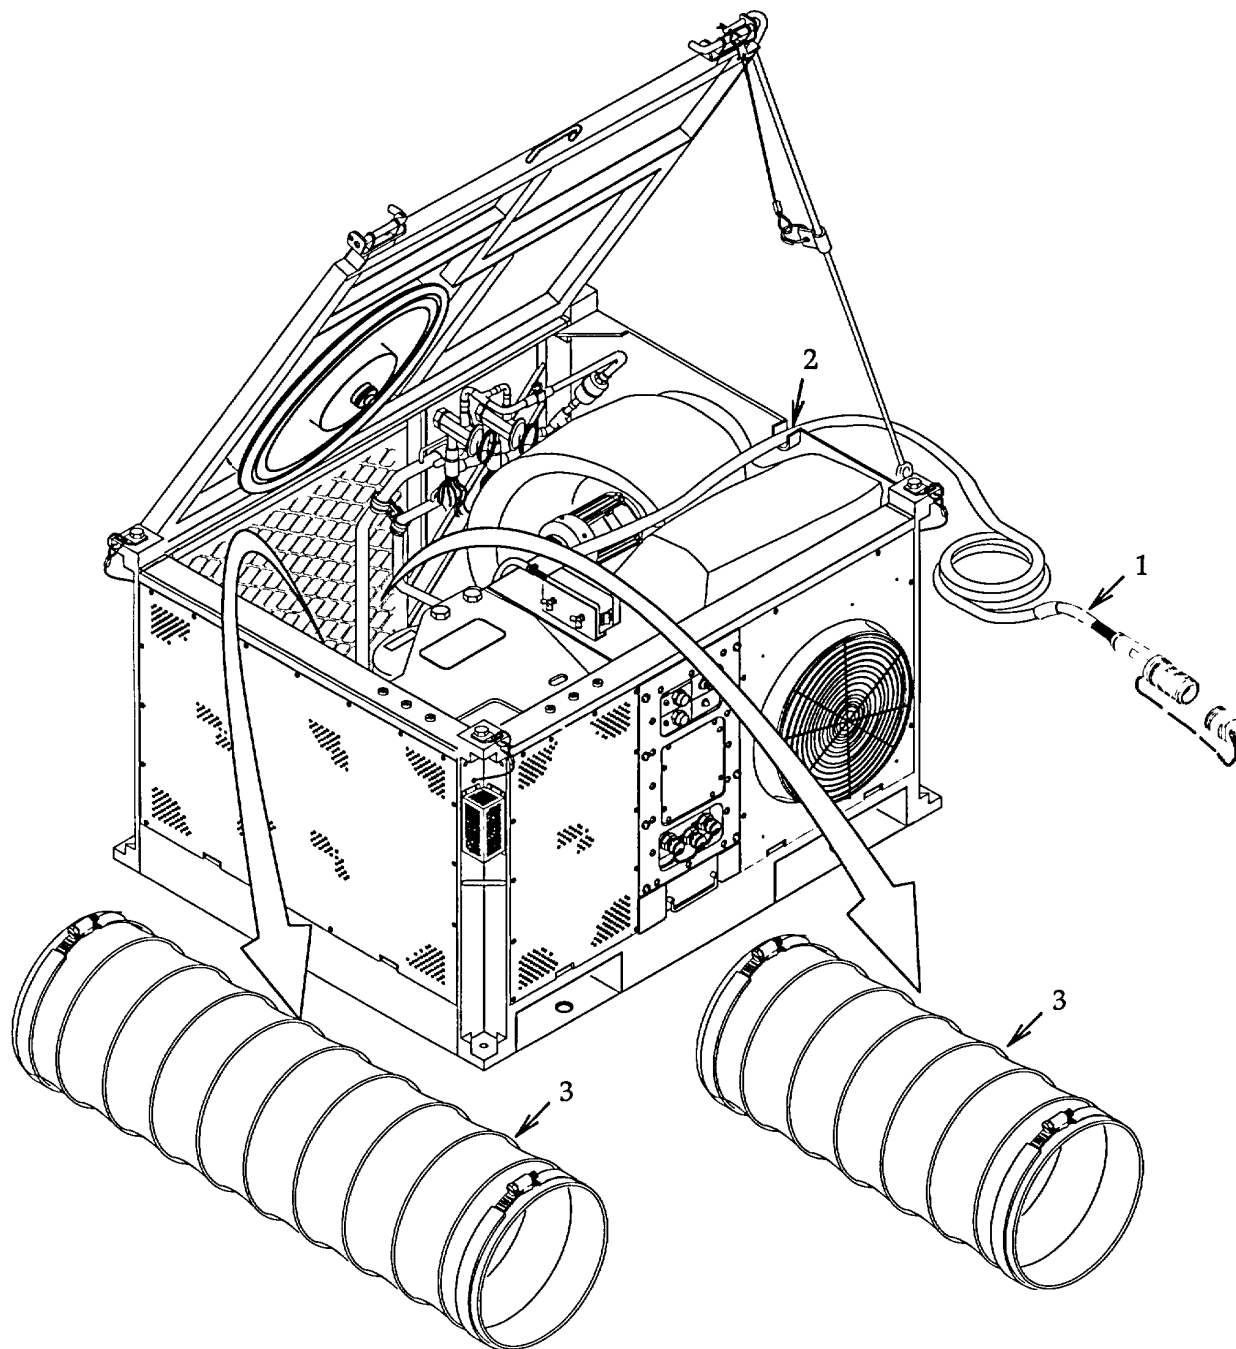

Figure 4-3. Unpacking Components.
4.4.3 **Remove Packed Components.** See figure 4-3.